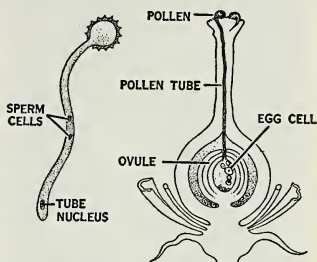

Fig. 362. The pollen tube.
**Fertilization.** By ways we shall study presently, pollen reaches the stigma, and the flower is then said to be *pollinated*. When the pollen grains fall upon the stigma, they are held fast by the moist surface. Then from each little pollen grain a long projection grows downward through the style. This projection is called the *pollen tube*. It continues to grow until it reaches and enters an ovule. Inside the ovule is an *egg cell*. When the pollen tube enters the ovule a special cell, called the *sperm cell*, leaves the pollen tube and unites with the egg cell, their protoplasts intermingling and fusing. This union of sperm and egg cells is called *fertilization* (Fig. 362).